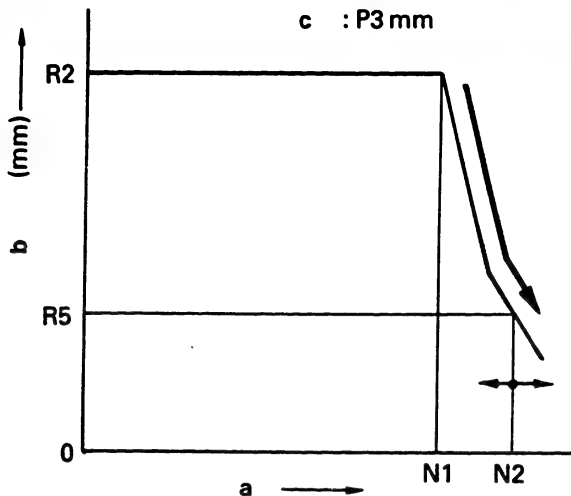

Fig. 72
3. Increase pump speed and check that the pump speed at control rack position R₅ is N₂. (Fig. 72)